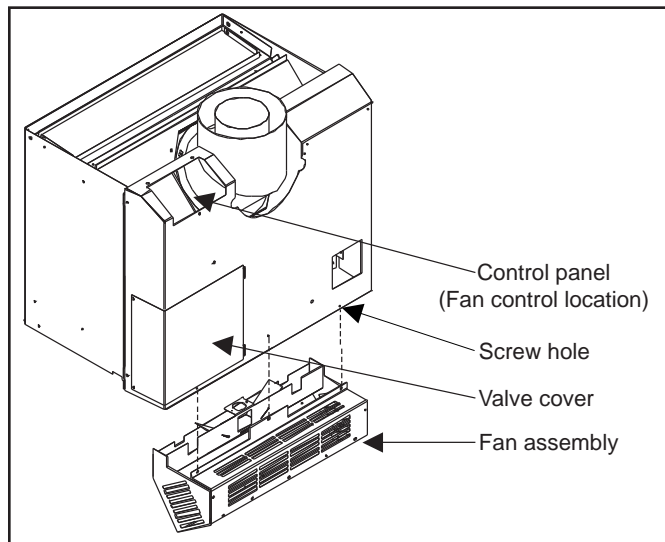

Figure 52: Optional Blower (Fan) Installation.
2. Place the fan assembly behind the unit and secure with the three screws provided, (as shown in Figure 52).